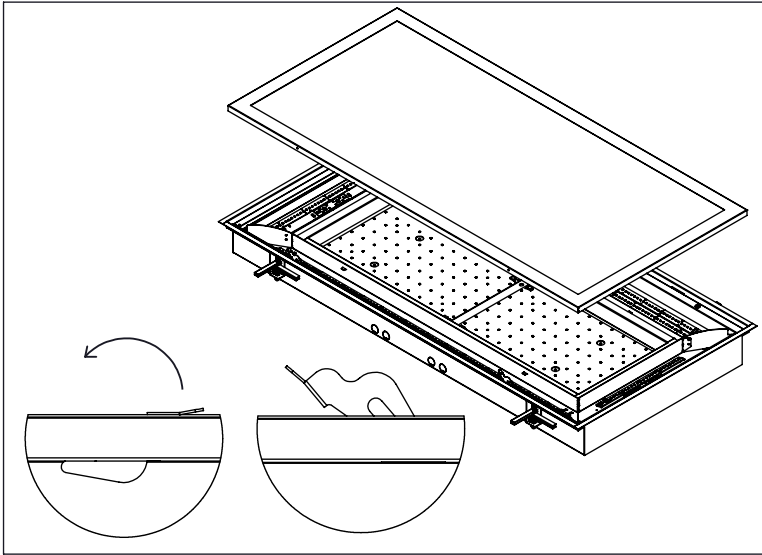

Figure 1
1. Rotate latch to unfasten Frame. Remove Frame (Fig. 1)